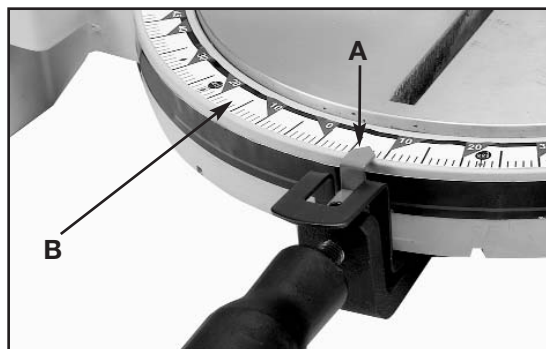

Fig. 13
A pointer (A) Fig. 13 is supplied which indicates the actual angle of cut. Each line on the scale (B) represents 1 degree. When the pointer is moved from one line to the next on the scale, the angle of cut is changed by 1 degree.